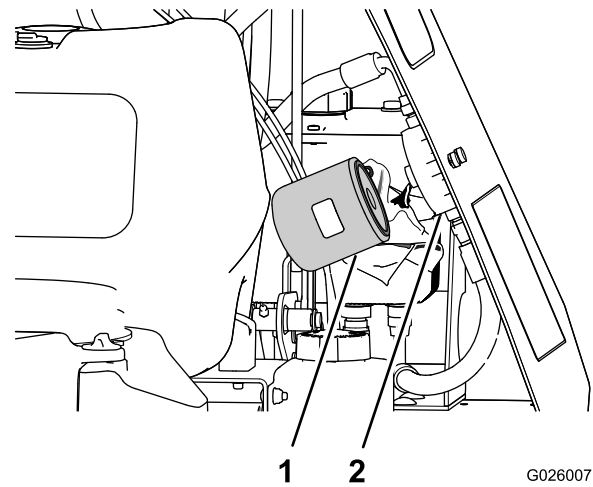

Figure 63
- Rotate the auxiliary hydraulic filter counterclockwise and remove it from the base of the filter adapter (Figure 63). Allow the fluid to drain.
- Install the filter by rotating it clockwise onto the filter adapter until the seal contacts the filter adapter, then tighten the filter an additional 2/3 to 3/4 turn (Figure 63).